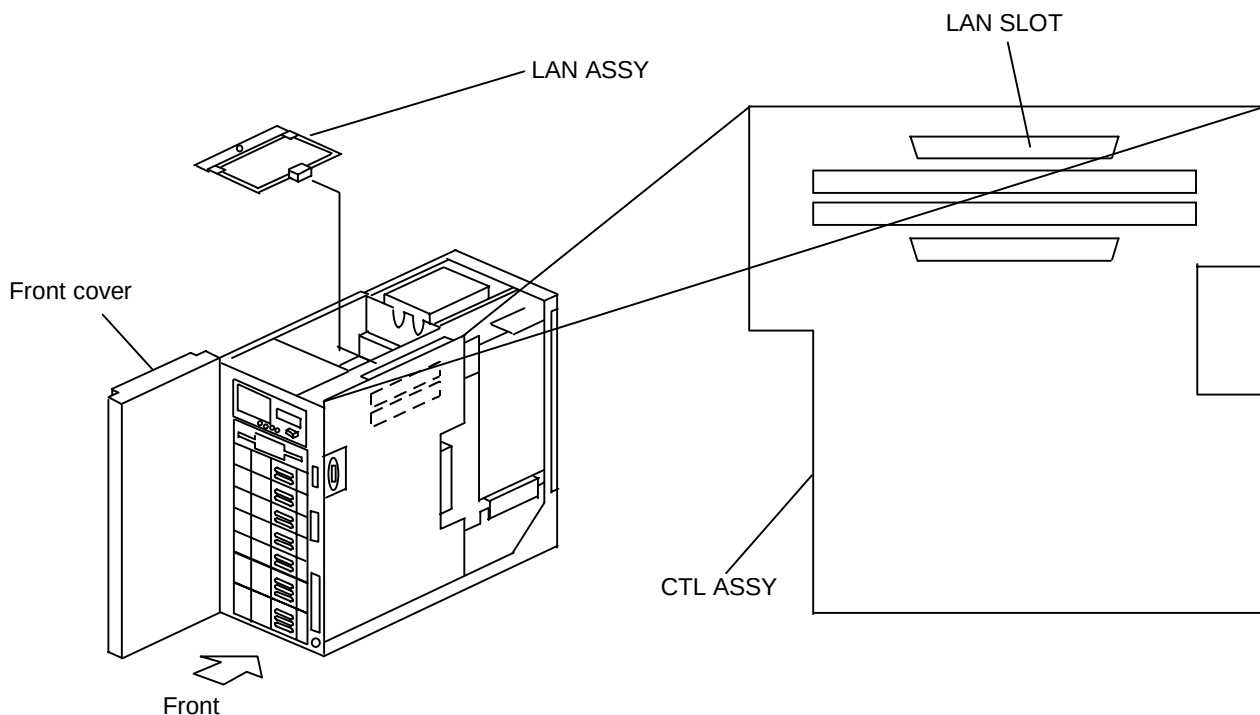

Figure 15.1 Replacing LAN ASSY
15. Replacing LAN ASSY (See Figure 15.1.)